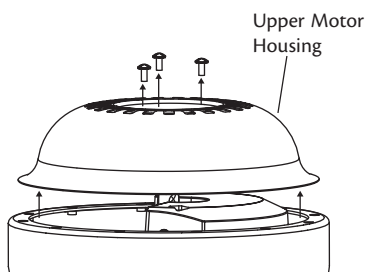

Figure 11 - Removing the upper motor housing
- Remove the three screws, then remove the upper motor housing as shown in Figure 11.